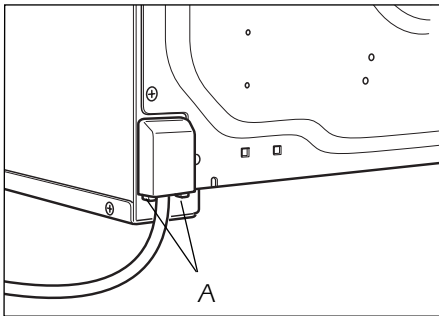

Fig. 7
- 1 Unhook the terminal board cover by inserting a screwdriver into the two hooks "A" (Fig. 7).